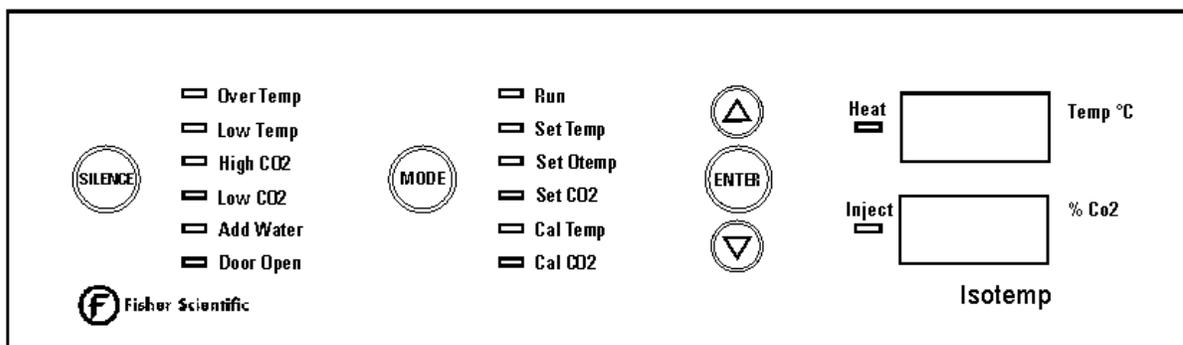

Figure 1-2
- Control Panel - Keypad, Displays and Indicators. (See Figure 1-2).